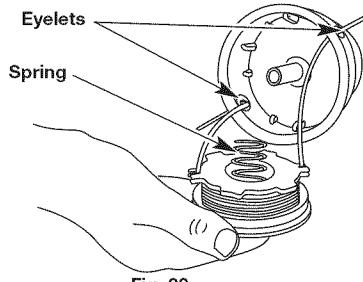

Fig. 20
13. Insert or slide the split ends of the line through or into the eyelets in the outer spool and place inner reel with spring inside the outer spool (Fig. 20). Push the inner reel and outer spool together.
5. Insert or slide the ends of the line through or into the eyelets in the outer spool (Fig. 20).